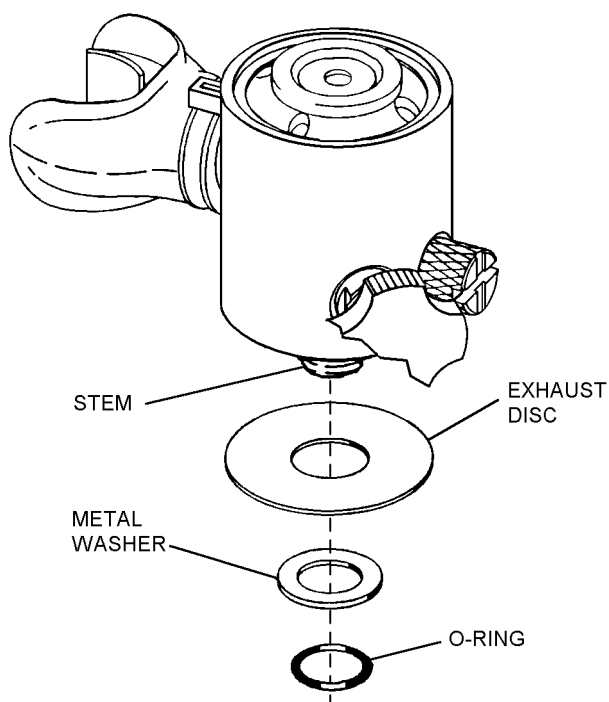

Figure 15-20. Exhaust Disc Assembly
7. Remove Exhaust Disc Assembly by using your fingers to slide O-ring, metal washer, and exhaust disc off of regulator stem (figure 15-20).